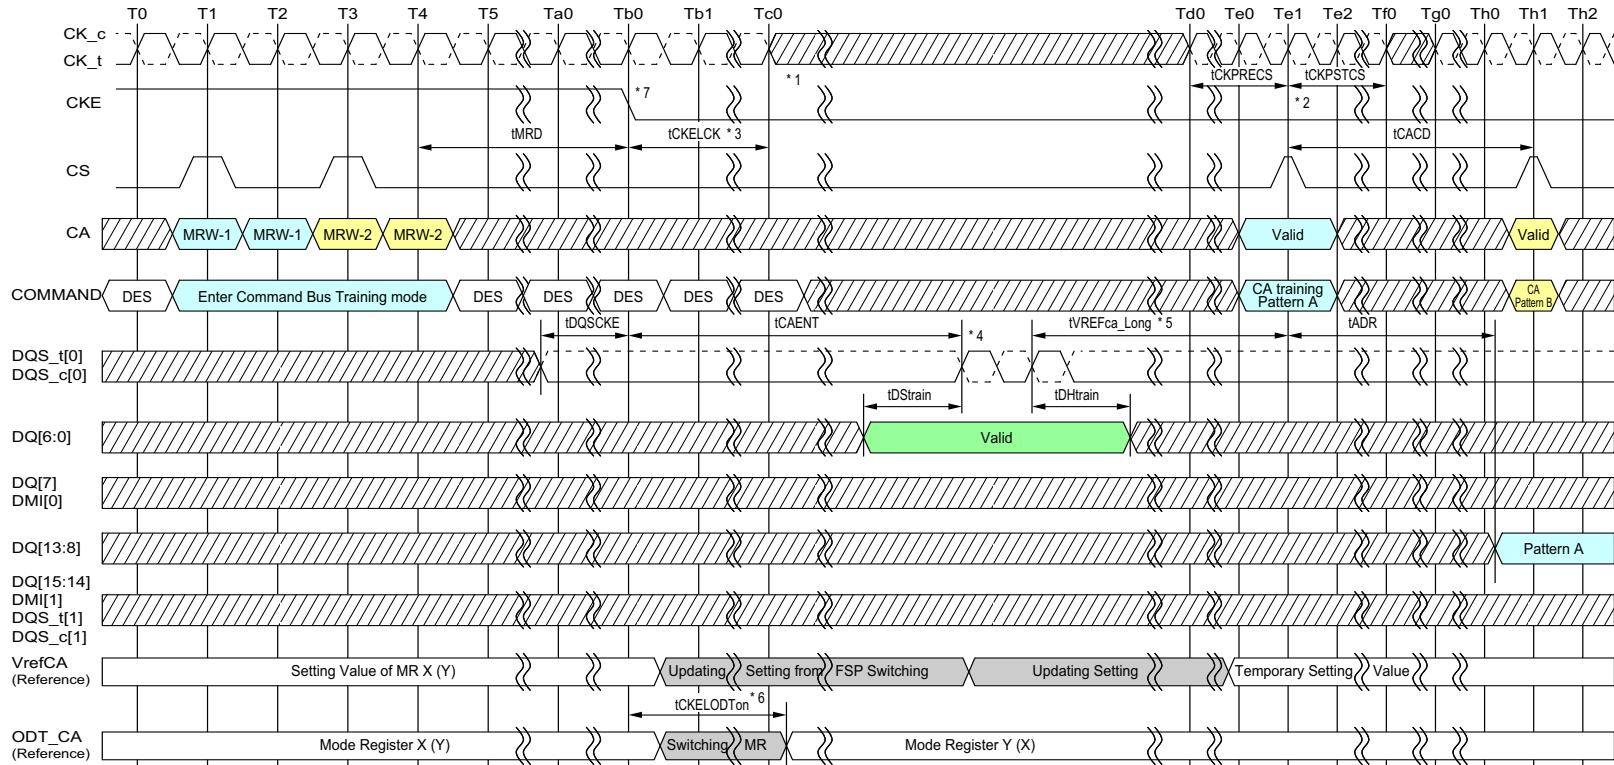

Figure 98 - Entering Command Bus Training Mode and CA Training Pattern Input and Output
The LPDDR4-SDRAM uses Frequency Set-Points to enable multiple operating settings for the die. The LPDDR4-SDRAM defaults to FSP-OP[0] at power-up, which has the default settings to operate in un-terminated, low-frequency environments. Prior to training, the mode register settings should be configured by setting MR13 OP[6]=1B (FSP-WR[1]) and setting all other mode register bits including MR12 OP[6:0] (VREF(CA) Range and Setting) for FSP-OP[1] to the desired settings for high-frequency operation. Prior to entering Command Bus Training, the SDRAM will be operating from FSP-OP[x]. Upon Command Bus Training entry when CKE is driven LOW, the LPDDR4-SDRAM will automatically switch to the alternate FSP register set (FSP-OP[y]) and use the alternate register settings during training (See note 6 in Figure 98 for more information on FSP-OP register sets). Upon training exit when CKE is driven HIGH, the LPDDR4-SDRAM will automatically switch back to the original FSP register set (FSP-OP[x]), returning to the “known-good” state that was operating prior to training.
5. To verify that the receiver has the correct VREF(ca) setting and to further train the CA eye relative to clock (CK), values latched at the receiver on the CA bus are asynchronously output to the DQ bus.